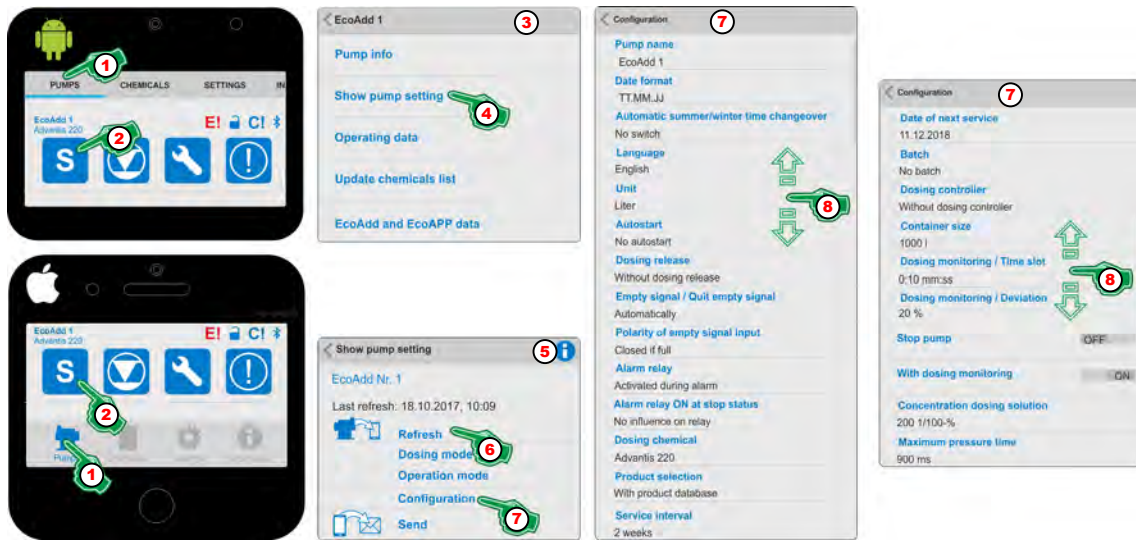

Fig. 26: Show pump settings - Configuration
1. Select Menu [Pumps] (Fig. 26, Pos. 1).
2. Select Symbol 'Dosing mode' (Fig. 26, Pos. 2).
3. To check which pump is currently displaying data, click on header (Fig. 26, Pos. 3) in which the selected pump is displayed.
4. Select [show pump settings] (Fig. 26, Pos. 4).
5. With the selection of the [Info] Symbol (Fig. 26, Pos. 5), the following information appears:
6. Select [Refresh] (Fig. 26, Pos. 6).
7. Select [Configuration] (Fig. 26, Pos. 7).